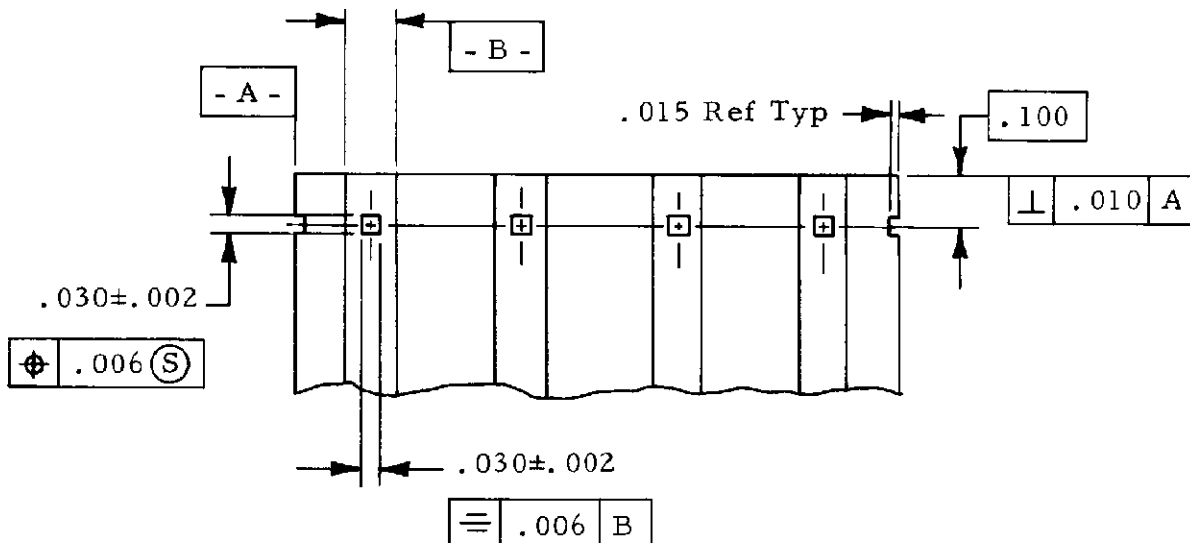

Figure 2
A. Cable shall be prepared in accordance with Figure 2 for edge mounting contacts.